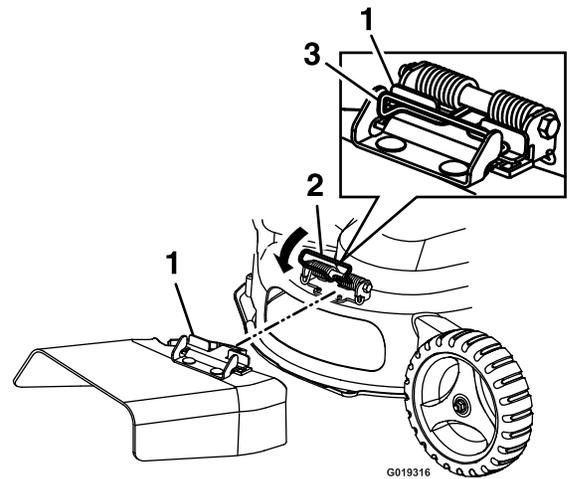

Figure 19
5. With the side discharge spring held in the “up” position, place the discharge deflector onto the mower housing over the opening. Allow the spring to lower over the tabs on the discharge deflector. Make sure the discharge deflector is securely in place (see Figure 19).